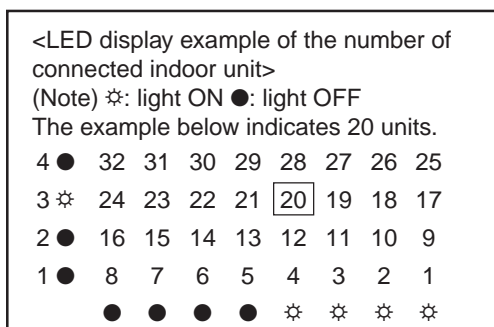

Fig. 1-9
- It normally indicates the number of connected indoor units (up to 32 units). Refer to Fig. 1-9 for example of display.